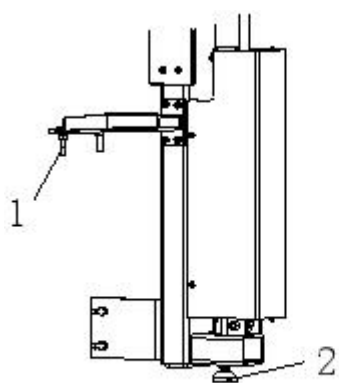

Fig 10↵
- 2) Fix the column on the body with four screw 1 and adjust the support 2 to a suitable location; (Fig 10)